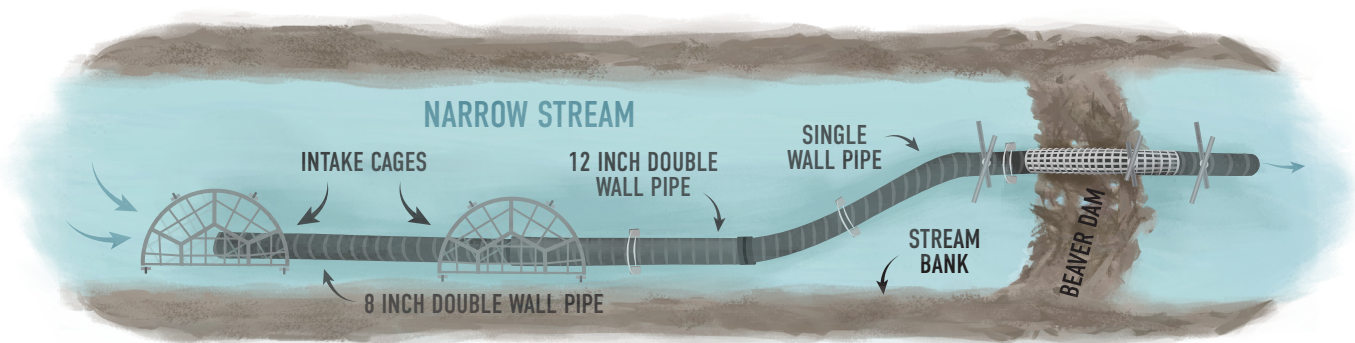

Figure 3. Overhead view of dual intake pond leveler modification for narrow streams using half-circle intake cages.
14. Construct a dual intake pond-leveling system with the intake flow distributed over two cages, spaced at a minimum of 20' from each-other (Figure 3).
19. Install the opening of the nested pipes in the second cage at the midpoint along the flat side (Figure 3).